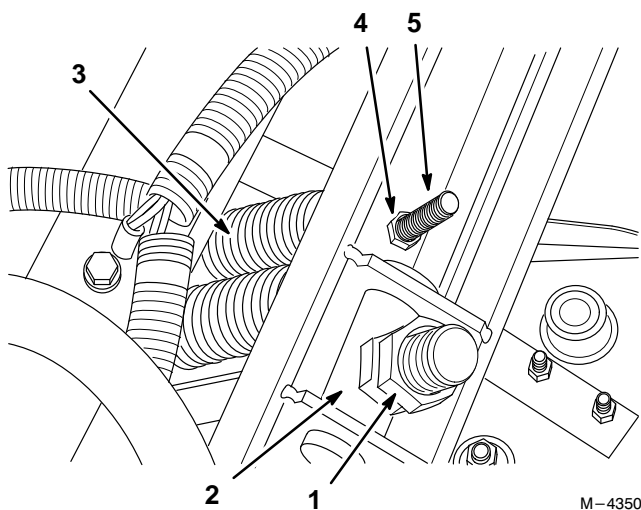

Figure 27
3. Measure distance between cylinder jam nuts and cylinder pivot pin (Fig. 27). Distance should be approximately 2-1/4 inch (57.2 mm).